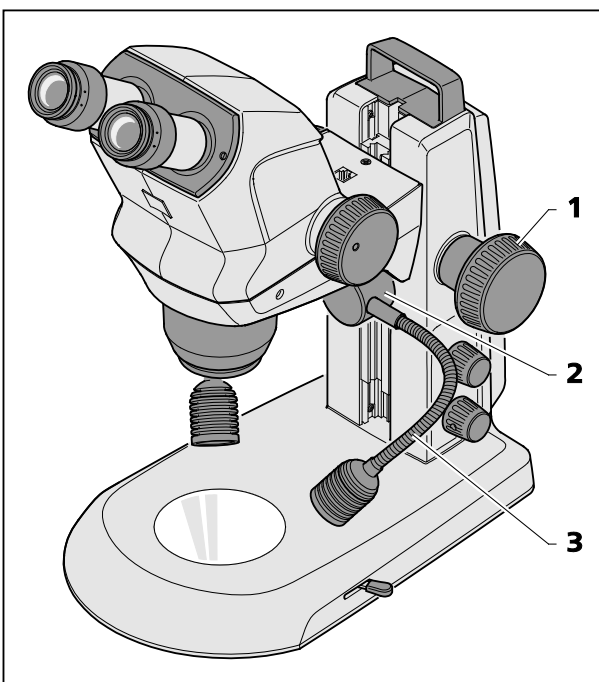

Fig. 16 Double spot illuminator
- Move the microscope body to its uppermost position via the focusing knob (Fig. 16/1).
- Push double spot illuminator (Fig. 16/2) to the required level within the guide.
- Bend the two goose necks (Fig. 16/3) to adjust the spots so that the specimen is optimally illuminated.